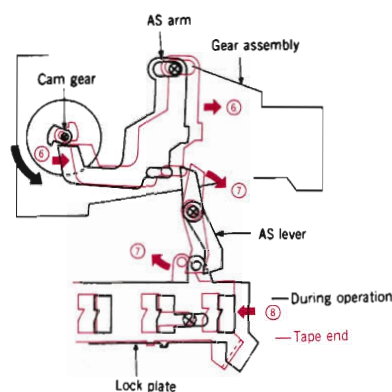

Fig. 16
- 3) When the AS arm slides into the position shown in black in Fig. 16, it engages with the AS cam under the cam gear and slides in the direction of arrow ⑥ .
- 4) When the AS arm slides into the position shown in color, the AS lever rotates in the direction of arrow ⑦ and makes the lock plate move in the direction of arrow ⑧ . This sliding of the lock plate causes the same conditions as when the stop button is depressed, and each slider goes into the stop mode.